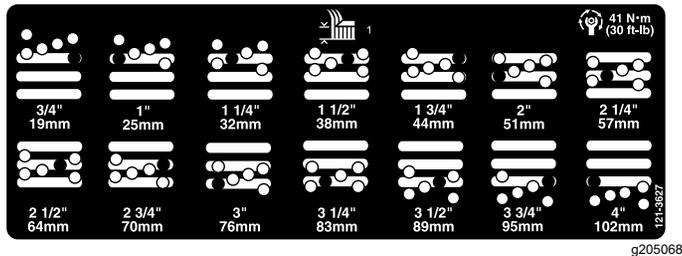

Figure 14
5. Move the chamber to the desired height of cut and install a spacer into the designated height-of-cut hole and slot (Figure 14).